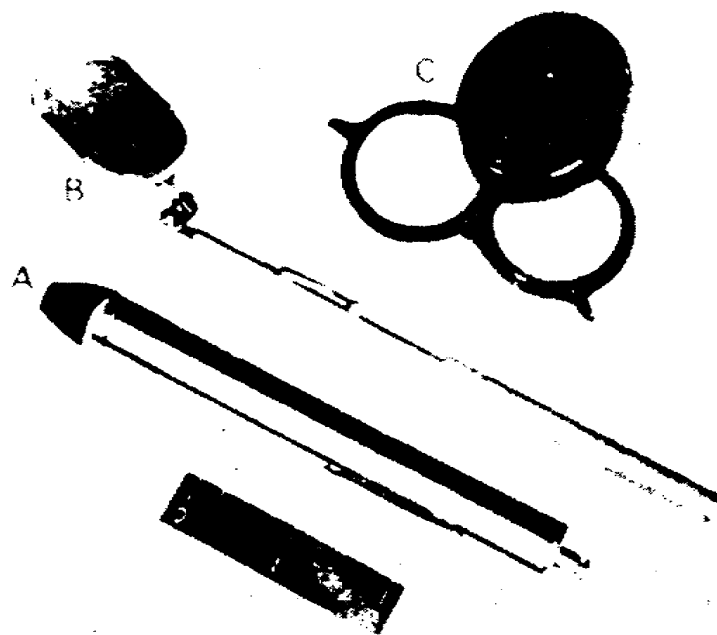

Figure 15. Tools for use in inspecting.
- (1) Cheesecloth (item A) and alcohol are used in cleaning electrical contacts, metal parts to be soldered, and so forth. In some issues of the TK-105/G a little can of alcohol may be included.
- (2) Six Microgator clips (item B) are useful in devising electrical arrangements for the testing and troubleshooting of circuits. Besides serving as temporary electrical connectors, they can serve as miniature clamps to hold tiny items in place while soldering, and as little heatsinks. The Microgator clip, while suitable for connections in shop tests of operating equipment, is too small for connecting test leads to line binding posts for field cable and wire connection. For this purpose, Test Clip TL-137 is more suitable. The TK-105/G does not include TL-137's, but wiremen and linemen will need them.
- (3) An electrician's knife (item C) is a multipurpose tool, useful and versatile in repair and maintenance work.
- (4) A roll of electrical insulating tape (item D) is supplied with the TK-105/G. The circular plastic shells on either side of the tape fit together and make a good container for keeping your tape clean.
h. Items for Use in Inspecting (fig. 15). If you are going to fix the equipment right, you must be able to see, observe, and inspect details closely. These tools will help you do so.